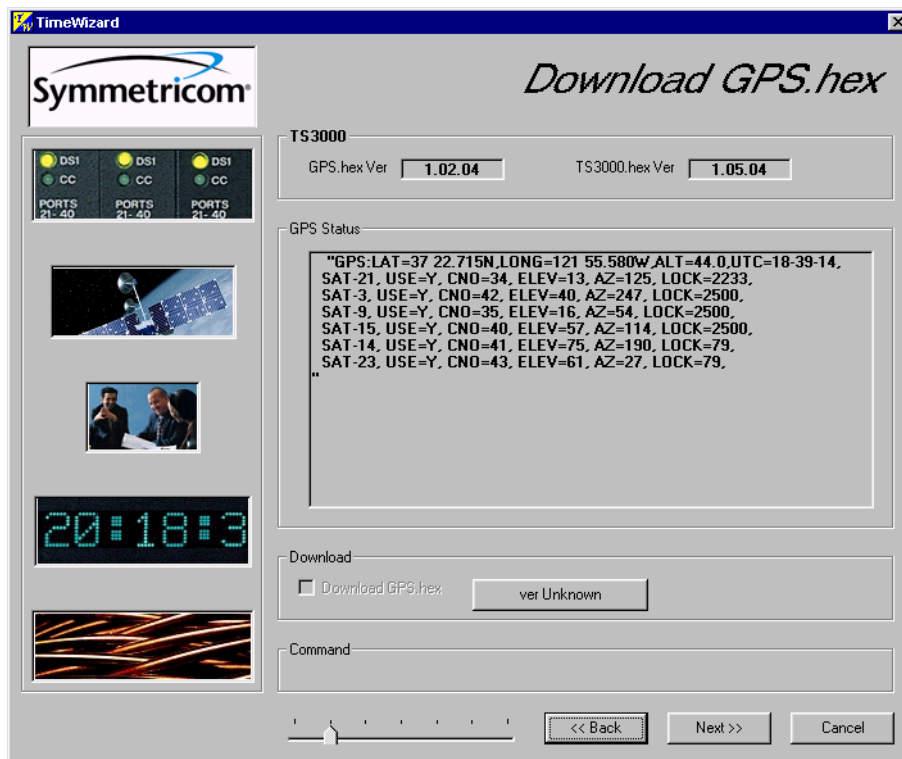
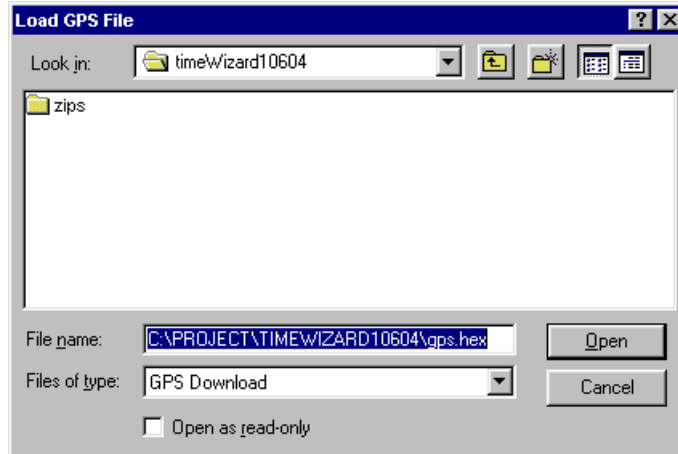

Figure 3-23. The Download GPS.hex Screen
Figure 3-24. The Load GPS File Dialog Box
5. Click **Next>>** to advance to the next screen. The Download GPS.hex screen appears, as shown in Figure 3-23. If you do not want to download the GPS.hex firmware, click **Next>>** again to advance to the "Download TS3000.hex" screen, then skip to Step 9.
6. Click **ver Unknown**. The Load GPS File dialog box, shown in Figure 3-24, appears.
9. Click **ver Unknown** in the Download TS3000.hex screen (this screen is similar in appearance to the Download GPS.hex screen shown in Figure 3-23). The Load TS3000 File dialog box appears (this screen is similar to Figure 3-24). If you do not want to download the TS3000.hex file, click Next>> to skip to the next screen and skip to Step 12.